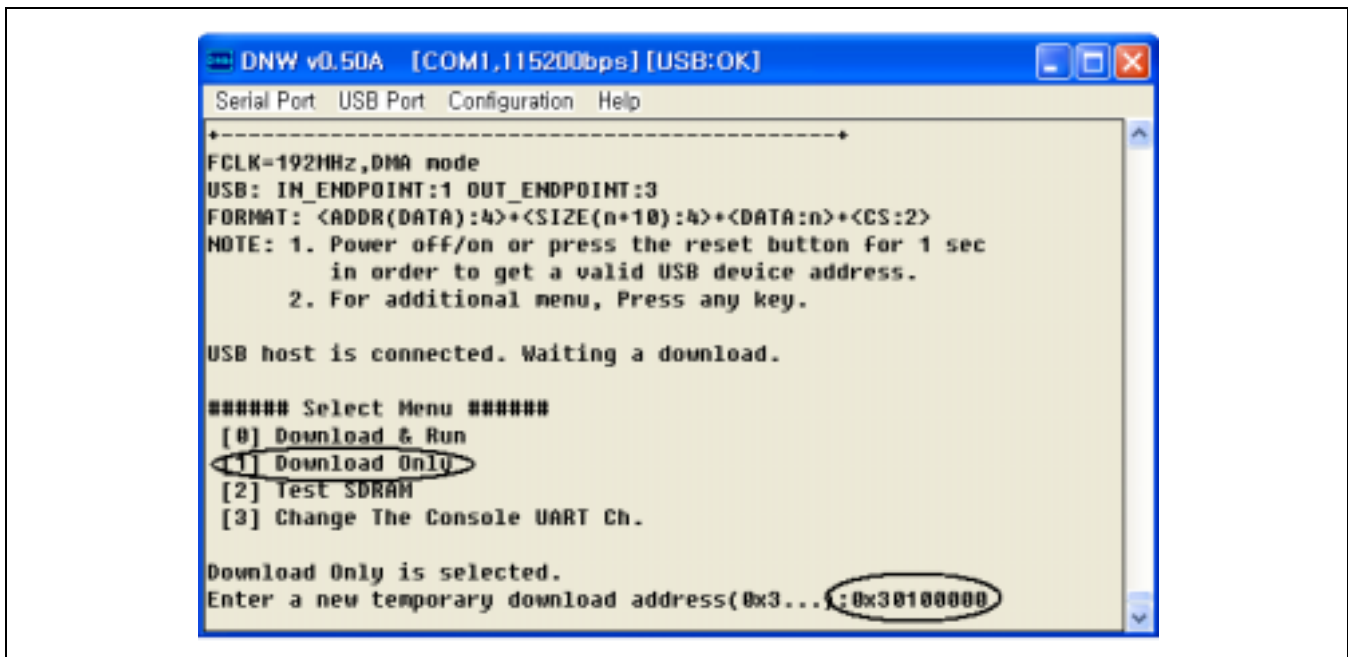

Figure 3-6. DNW Window (to Select Target Image)
5. For downloading a target image, select Download Only item on the DNW window (See Figure 3-6).
6. Write the address to download and press enter key (See Figure 3-6).